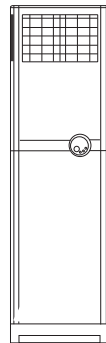

Fig.6
- Press SWING key on control panel (wireless remote control) to choose SWING and END SWING, then the swing louvers will swing left and right or stop swinging and breeze from a fixed direction. (As shown in Fig.6)
- Every time when pressing SWING,"SWING" will appear on LCD, if indoor fan is already working, then swing motor will start and breeze left and right; press the key once more, "SWING" disappears from LCD, swing motor stops, the louvers stop swinging and breeze from a fixed direction. (As shown in Fig. 6)